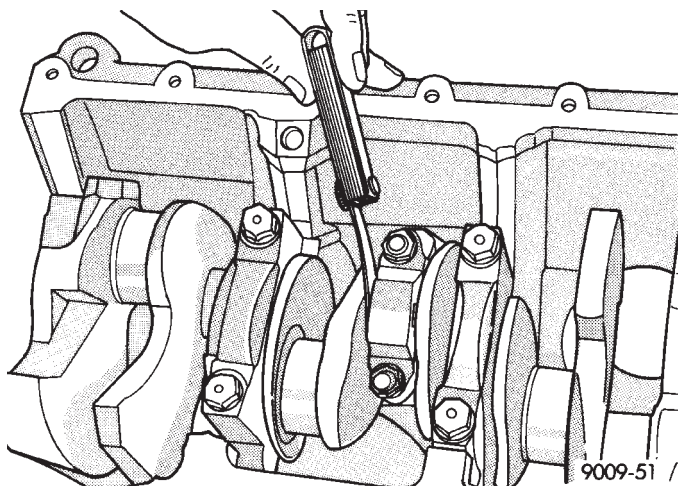

Fig. 11 Checking Connecting Rod Side Clearance
(2) Before installing the nuts the threads should be oiled with engine oil.
(3) Install nuts on each bolt finger tight then alternately torque each nut to assemble the cap properly.
(4) Tighten the nuts to 54 N·m PLUS 1/4 turn (40 ft. lbs. PLUS 1/4 turn).
(5) Using a feeler gauge, check connecting rod side clearance (Fig. 11). Refer to (Fig. 12) for specifications.